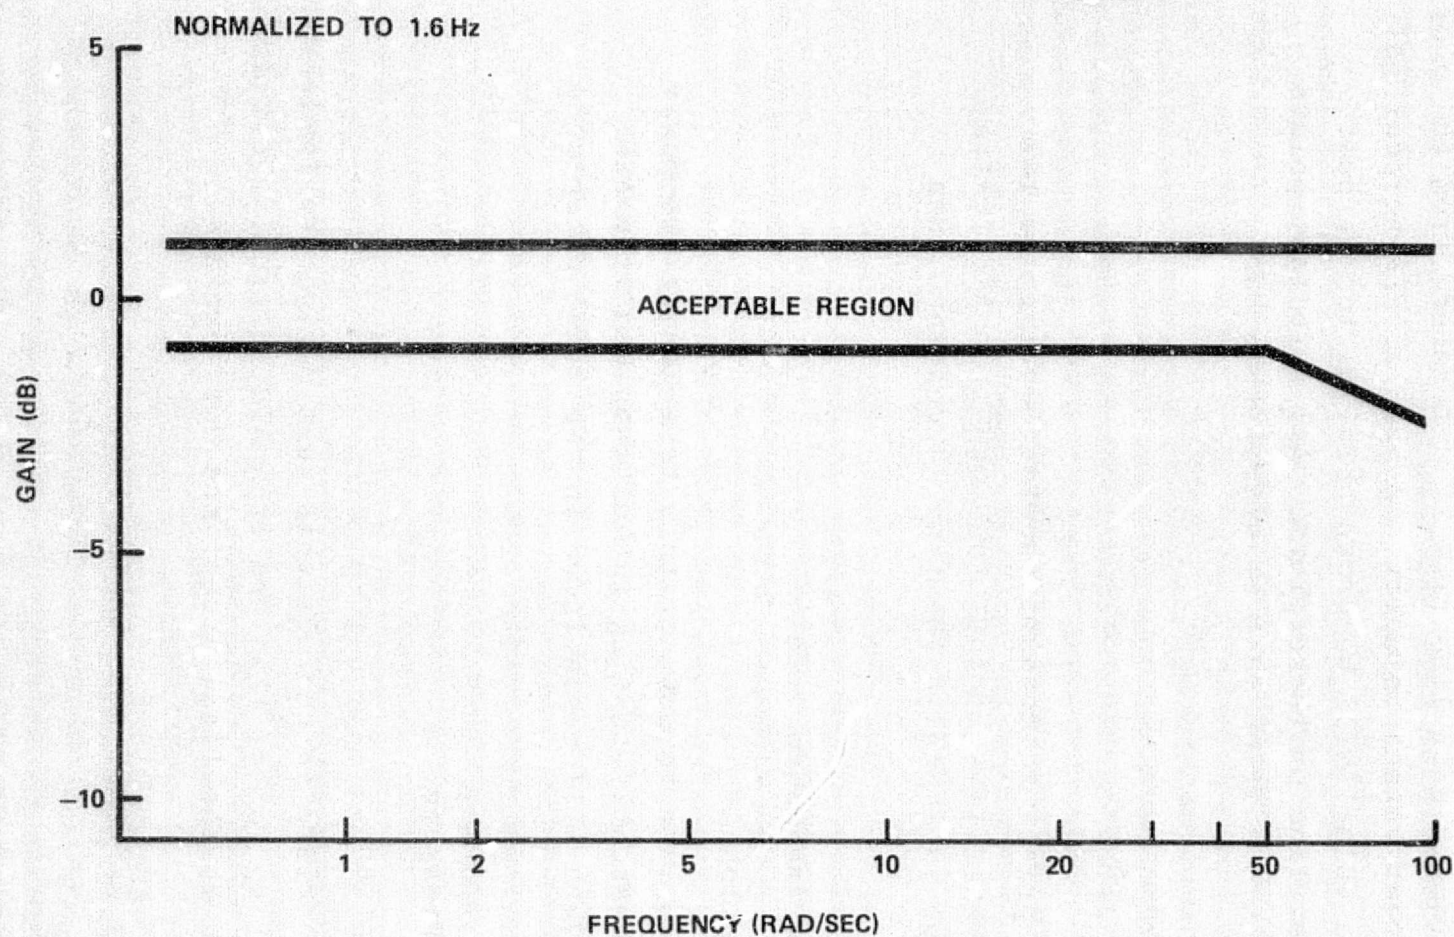

Figure 3-6. - Elevon (inboard or outboard) load flow to servo valve command gain response unloaded.
Object of the test is to demonstrate that the units frequency response complies with figures 3-6 and 3-7 which are plots of gain versus frequency and phase angle versus frequency,
6. Plots of test data for gain and phase angle will match the figures 3-6 and 3-7 plots.